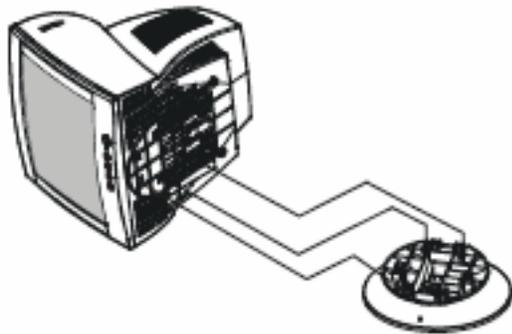

Figure 1 Installing and removing the Swivel Base
- 1 Carefully turn the monitor on its side or upside down. (see figure 1)